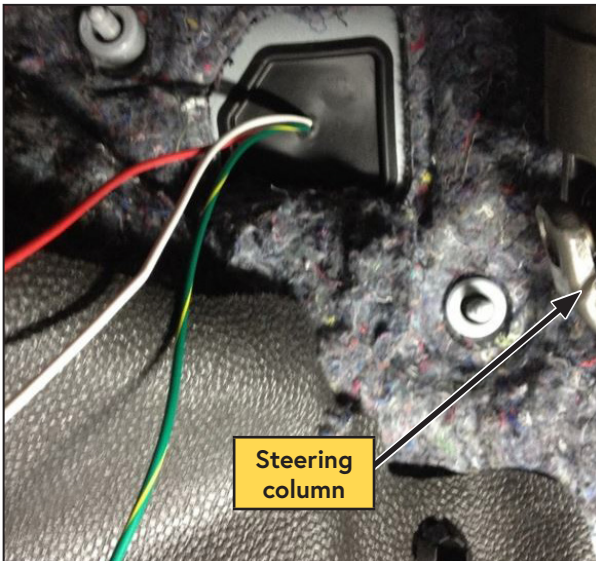

Figure 15 — Routing the tachometer cable
- Pull back the flooring and sound proof mat and pass the loomed tachometer cable through the firewall via the plastic cover (Figure 15).